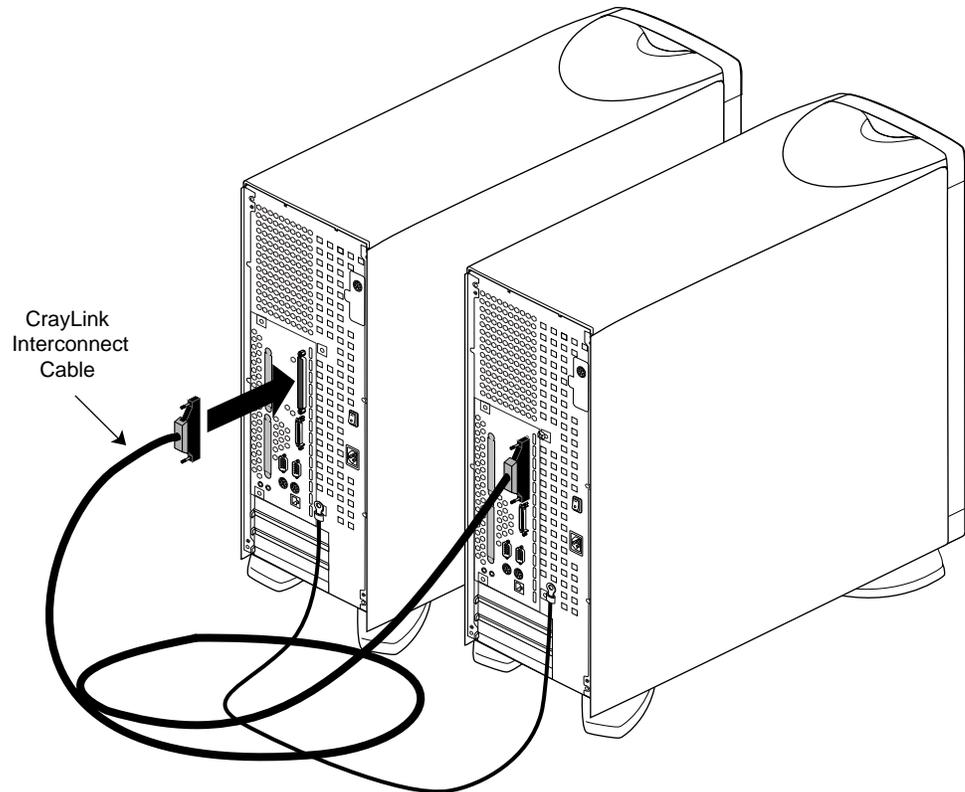

Figure 2-20 Attaching the CrayLink Interconnect Cable and Grounding Cable
7. Connect the two modules with the CrayLink Interconnect cable, as shown in Figure 2-20. Be sure to tighten the thumbscrews on the connectors for proper Craylink operation.